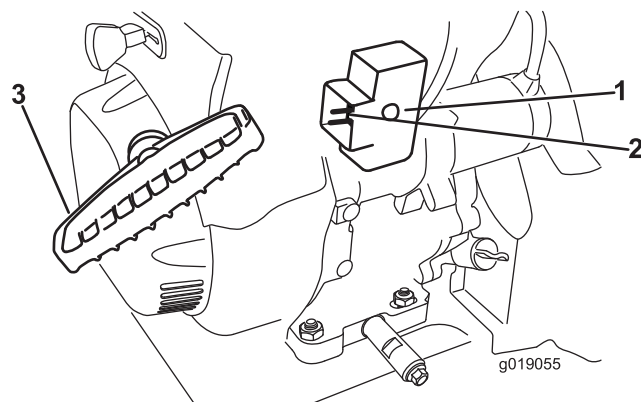

Figure 24
7. Start the machine by pulling the recoil starter or pressing the electric-starter button (Figure 24).